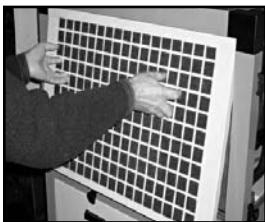

Fig 3
### Electrostatic Air Filter (Fig 3)
- Lift and remove air filter containment unit. (Fig 3)